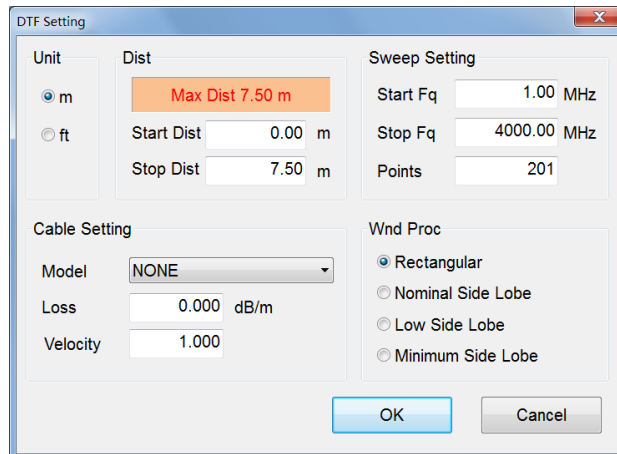

Figure 7-8 Dialog Box of DTF Parameter Setting
- In the **【DTF】** group, click **【Set】** to pop up the dialog box of “DTF Setting”, as shown in Figure 7-8, and input the corresponding parameters and then press the **【OK】** key to finish the setting.